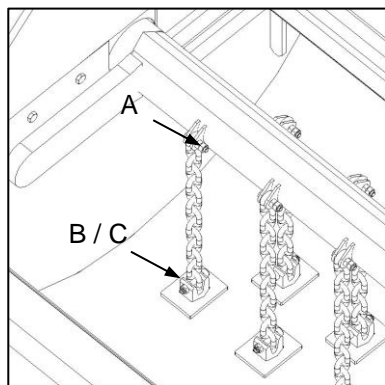

Fig. 1
- ✔ Check all fasteners for tightness. This includes special attention to safety-critical fasteners such as flail chain mountings, flails and locking plates (Fig. 1-A/B/C).
- ✔ Verseker dat alle hegstukke vas is. Gee spesiale aandag aan veiligheidskritieke hegstukke soos vleëlketting-monterings, vleëls en sluitplate in (Fig. 1-A/B/C).